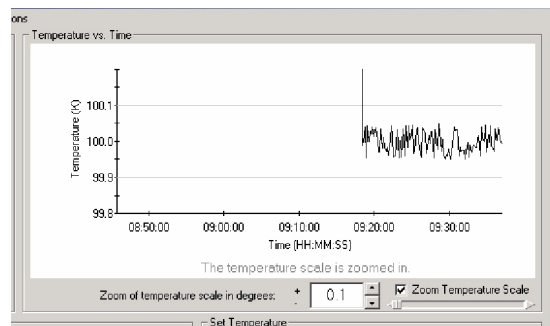

Figure 11. Zoom of temperature scale in degrees
- Enter a scale value in the Zoom of temperature scale in degrees field (Figure 11) or adjust the slider bar below the heading Zoom Temperature Scale.